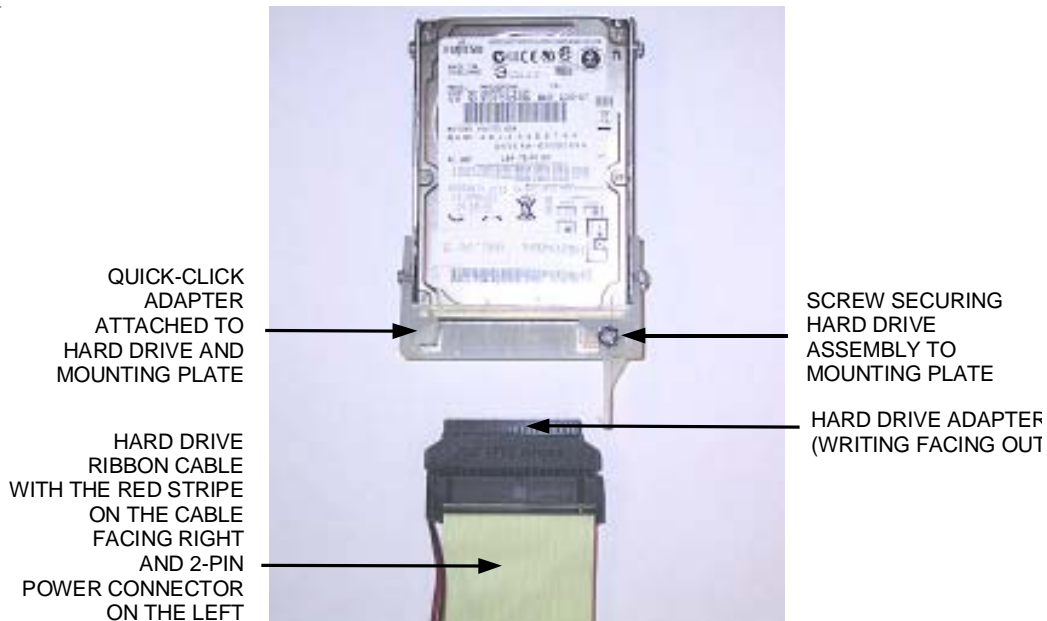

FIGURE 3 - QUICK-CLICK HARD DRIVE ASSEMBLY CONNECTION
2. Attach the hard drive ribbon cable on the electronics box to the supplied hard drive by lining up the left side of the hard drive adapter with the pins on the hard drive and then carefully inserting it all the way into the quick-click adapter (see Figure 3 for proper orientation).
5. Secure the ribbon cable in place with the hard drive support bracket and tighten the screw. See Figure 3.